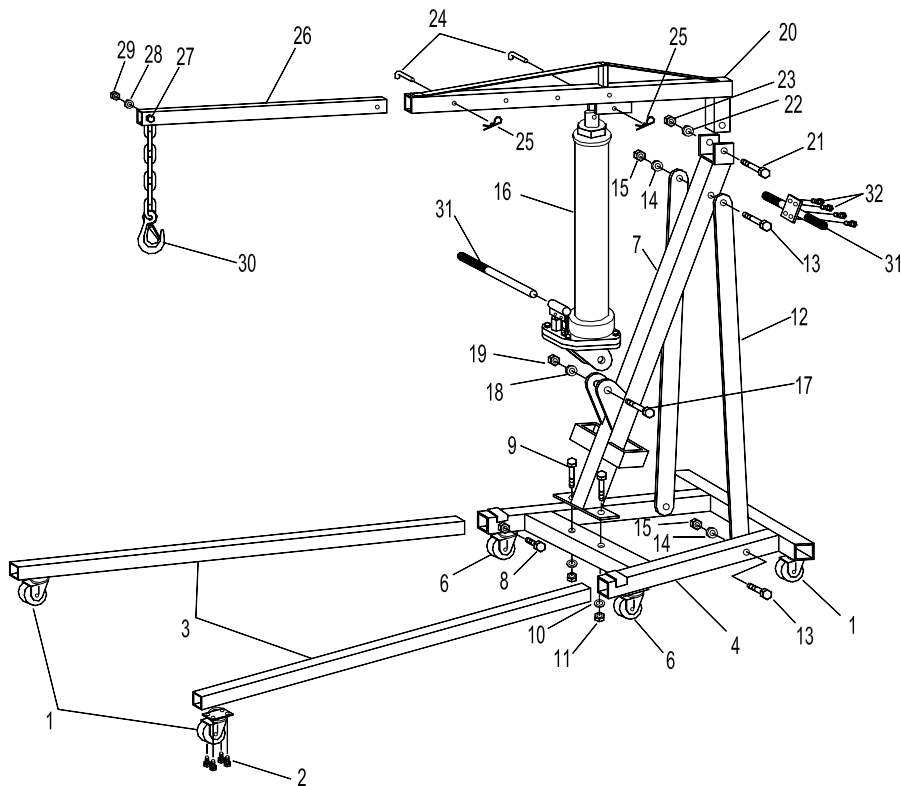

Fig. 3 - Assembly Illustration
1. Remove lock pin (Ref. No. 24 in figure 3) from the boom.
4. Remove bolts (Ref. # 8 in figure 3) of left and right legs of the crane.